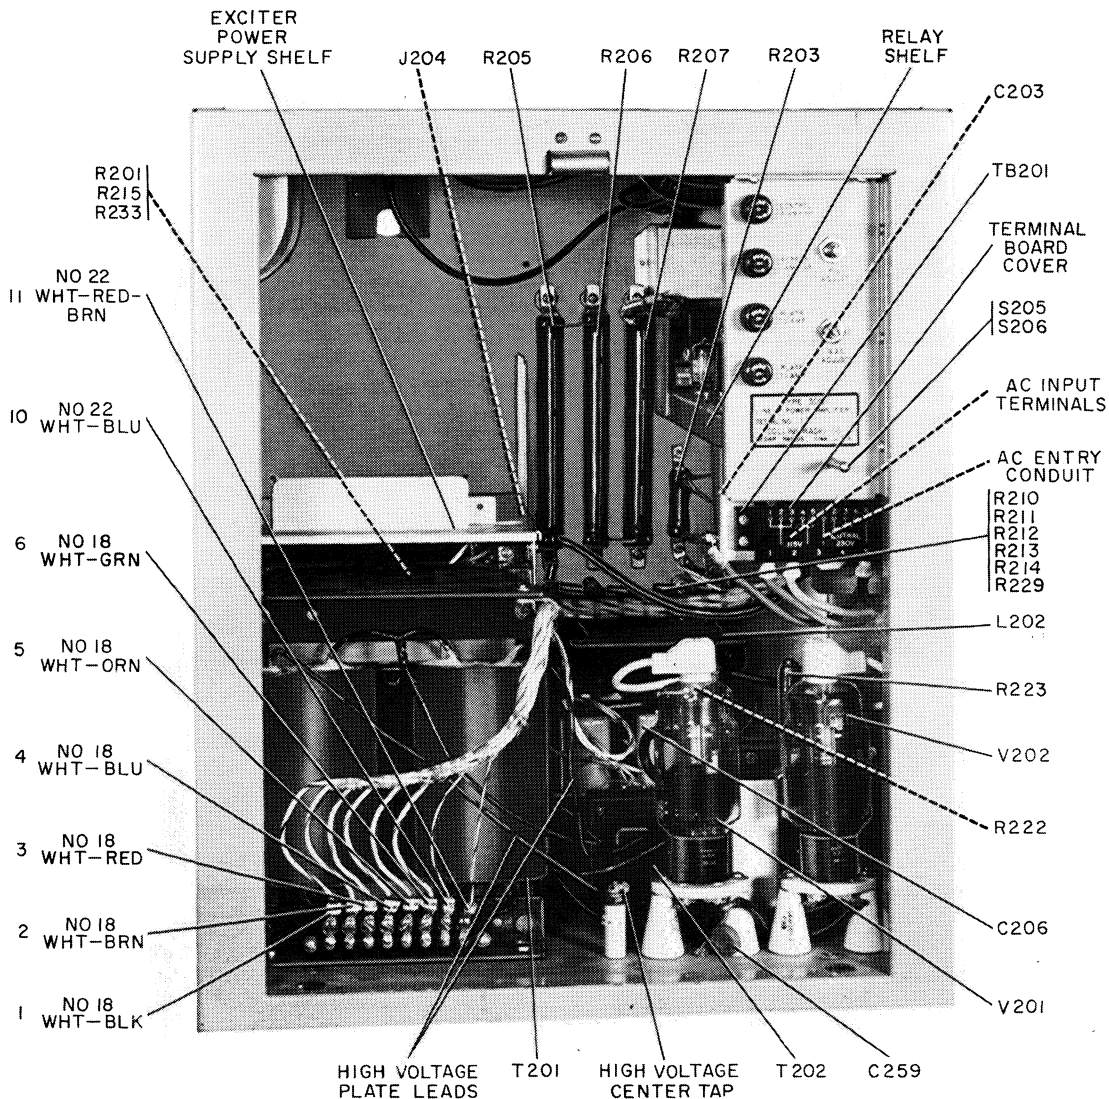

Figure 4. Power Supply Compartment, Parts Location and Wiring
c. Loosen the exciter power supply shelf, shown in figure 4, and tip it back out of the way. This shelf provides space for mounting the exciter power supply inside the 30S-1 power compartment, if desired. The shelf may be loosened by removing three flat-head machine screws along the left side and two sheet-metal screws along the back edge. The screw heads on the left side are on the inside of the cabinet, and the screw heads along the rear are on the outside of the cabinet.
e. Connect the center tap (terminal 8) to the solder terminal on the ceramic post insulator. This insulator is shown in figure 4 in front of the 3B28 filament transformer, T202.
g. Connect the wires of the cable to the terminal strip across the bottom edge of the transformer frame according to the wire code information of figure 4.
the 30S-1 on the flange of the power supply shelf. See figure 4.
k. Connect the 30S-1 power supply input terminals to the a-c line according to the information given in figures 1 through 3. Run the a-c power supply leads through the entry conduit from the rear of the cabinet. Connect the white wire to the neutral. The a-c input terminals are shown in figure 4.